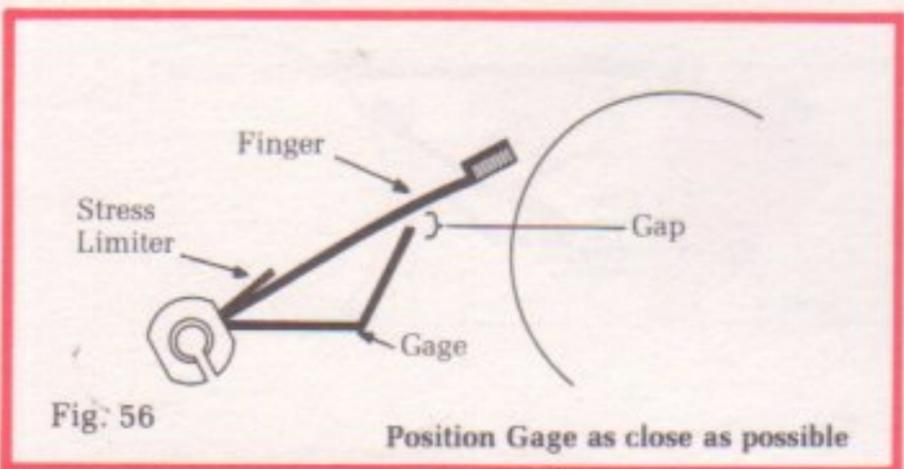

Fig. 56. Position Gage as close as possible
3. **The Index Finger** — Rotate the index finger collet until index jewel completely disengages from index wheel. Observe gap between index gage and index finger (Fig. 56). The gage must not touch the finger, but preferably should be very close, **not more than one index finger thickness**. This, as you will see, will make it easier to perform Step 4. If gap does not meet requirements, bend index gage at its attached end until the proper gap is obtained. The gage should have an elbow appearance, similar to the one shown. The angle of the elbow bend should **not** be altered.